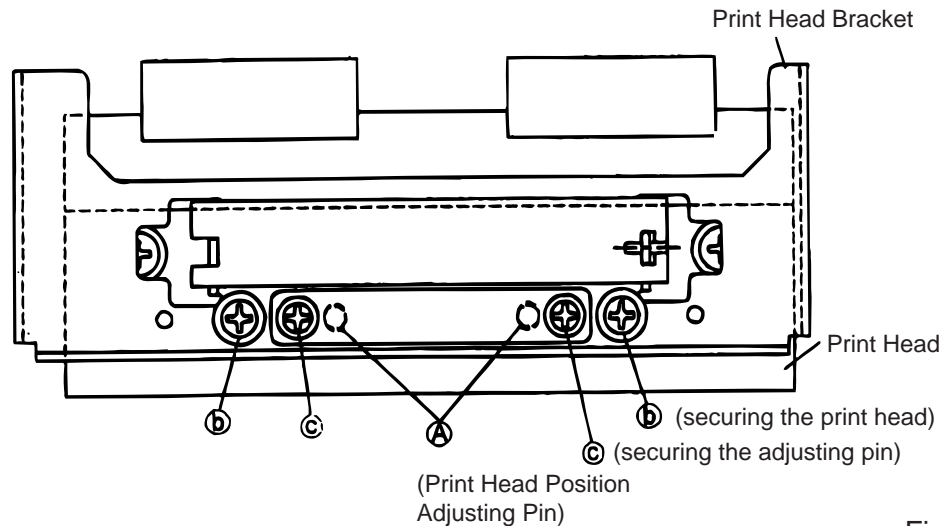

Fig. 2-16
1. NEVER remove the four screws painted red fixing the right plate and reinforcing plate. (See Fig. 2-16)